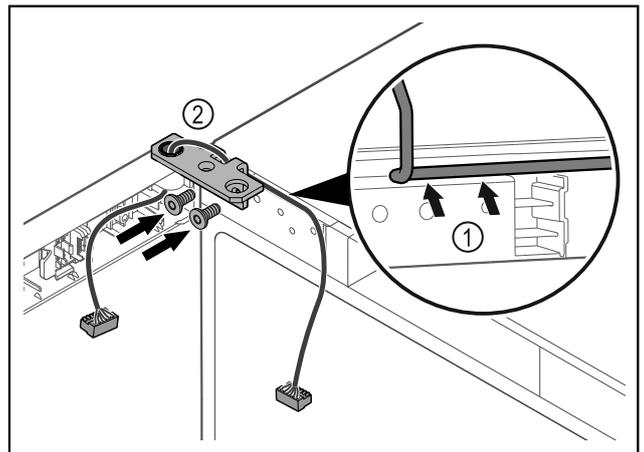

Fig. 46
- ▶ Feed the cable through the recess in the hinge and lay it carefully Fig. 46 (1).
- ▶ Screw on the hinge Fig. 46 (2).